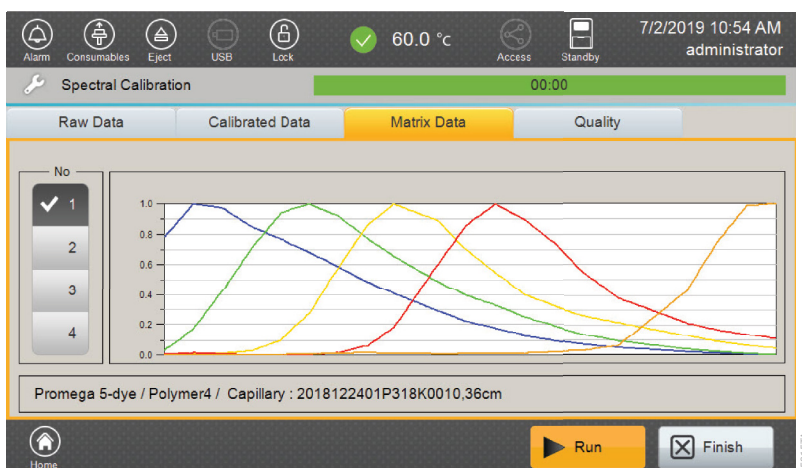

Figure 55. Spectral calibration 'Matrix Data' tab screen.
1. Select the 'Matrix Data' tab to review the emission spectra for each capillary (Figure 55).